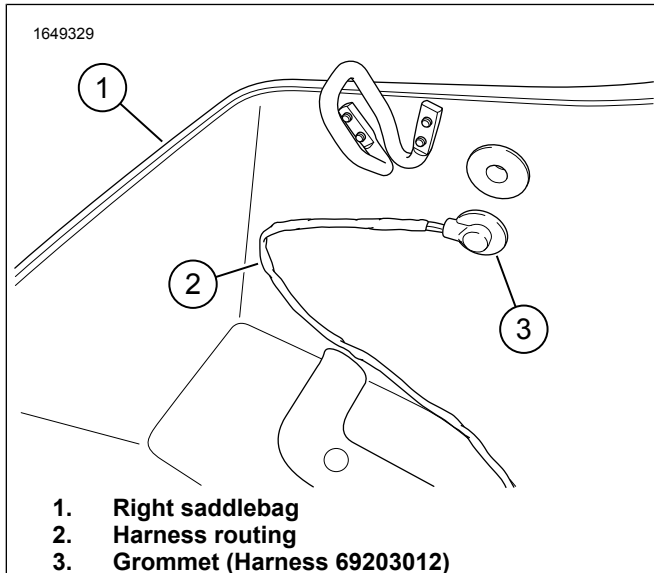

Figure 17. Right Saddlebag Harness Routing
- a. See Figure 17. Rotate grommet until proper harness routing is achieved.